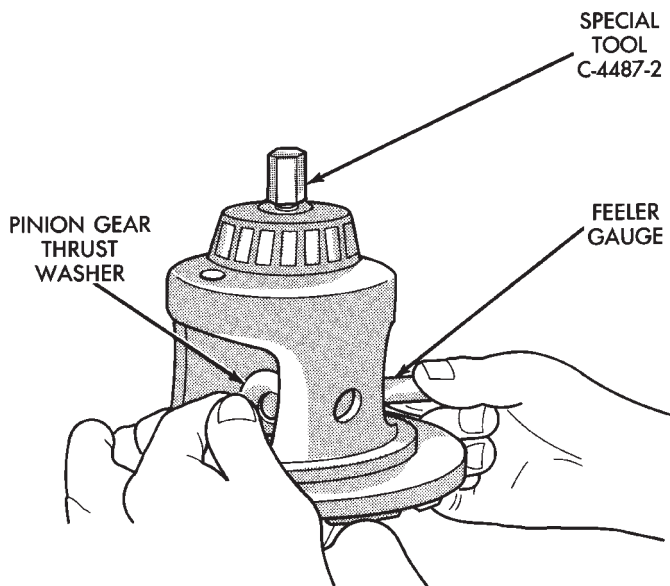

Fig. 11 Remove Pinion Thrust Washer
(9) Tighten forcing screw tool enough to relieve clutch pack tension. Remove both pinion thrust washers (Fig. 11).